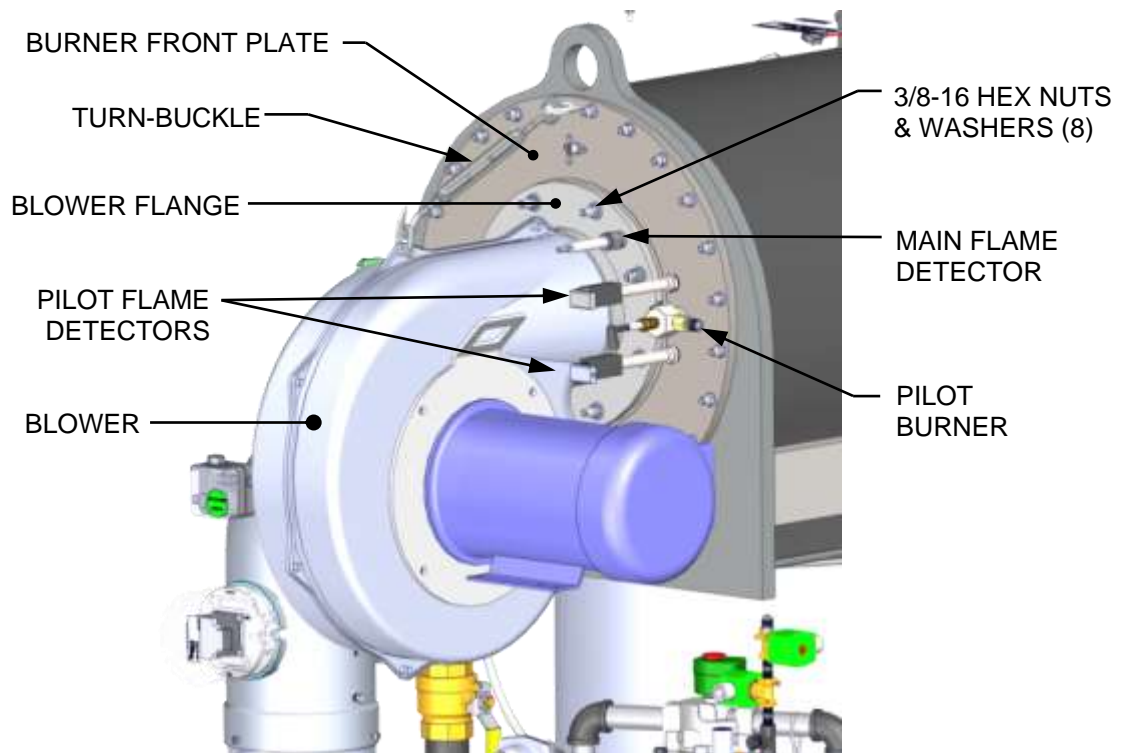
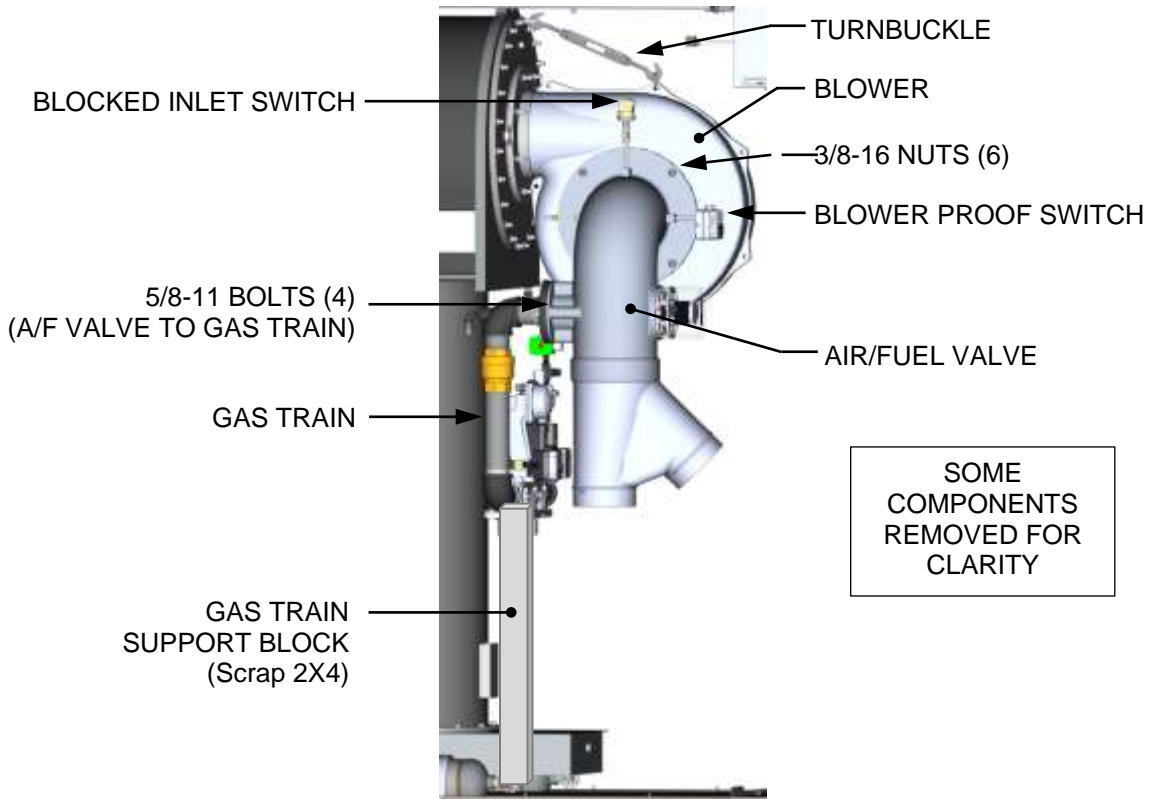

Figure 4-5a: Burner Assembly Mounting Details – Right-Front View
Figure 4-5b: Burner Assembly Mounting Details – Left Side View
6. Remove the Pilot sensors and observation ports from the Burner Plate (Figure 4-5a, below).
10. Remove the blower support turn-buckle (Figure 4-5a or Figure 4-5b).
13. Disconnect the wires from the Blower Proof and Blocked Inlet switches (Figure 4-5b).
15. Place a support block of any appropriate material (such as a scrap 2X4 cut to length) under the gas train (see Figure 4-5b), and then remove the four 5/8-11 bolts & washers connecting the gas train to the Air/Fuel valve.
17. Loosen and remove the eight (8) 3/8" hex nuts and washers from the Blower Flange where it is attached to the Burner's Front Plate (see Figure 4-5a).